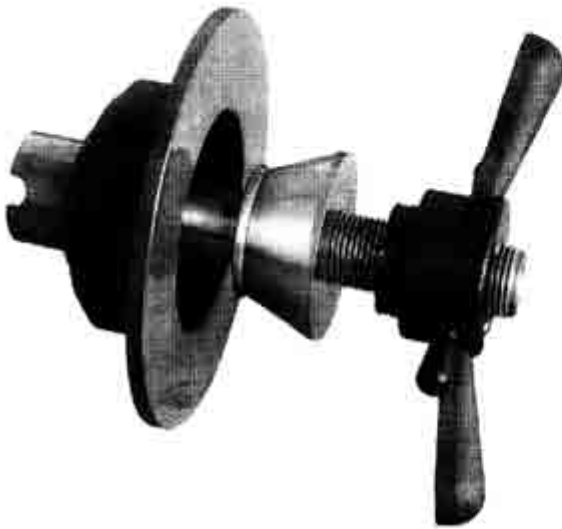

Fig. 10
2. to user taper No. 5,6 (Fig 10)